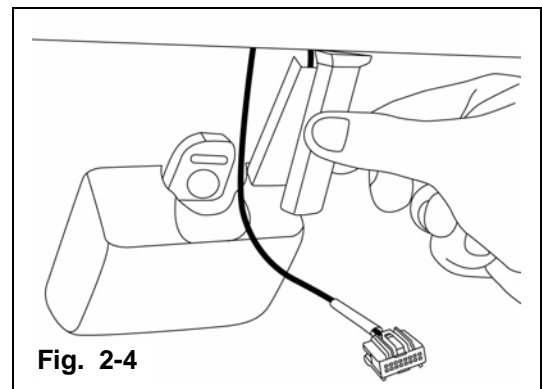

Fig. 2-4
- b) Slide upper portion of wire cover up to headliner so the "forks" are held by the headliner and snap over rain-sensor cover base. **(Fig. 2-4)**